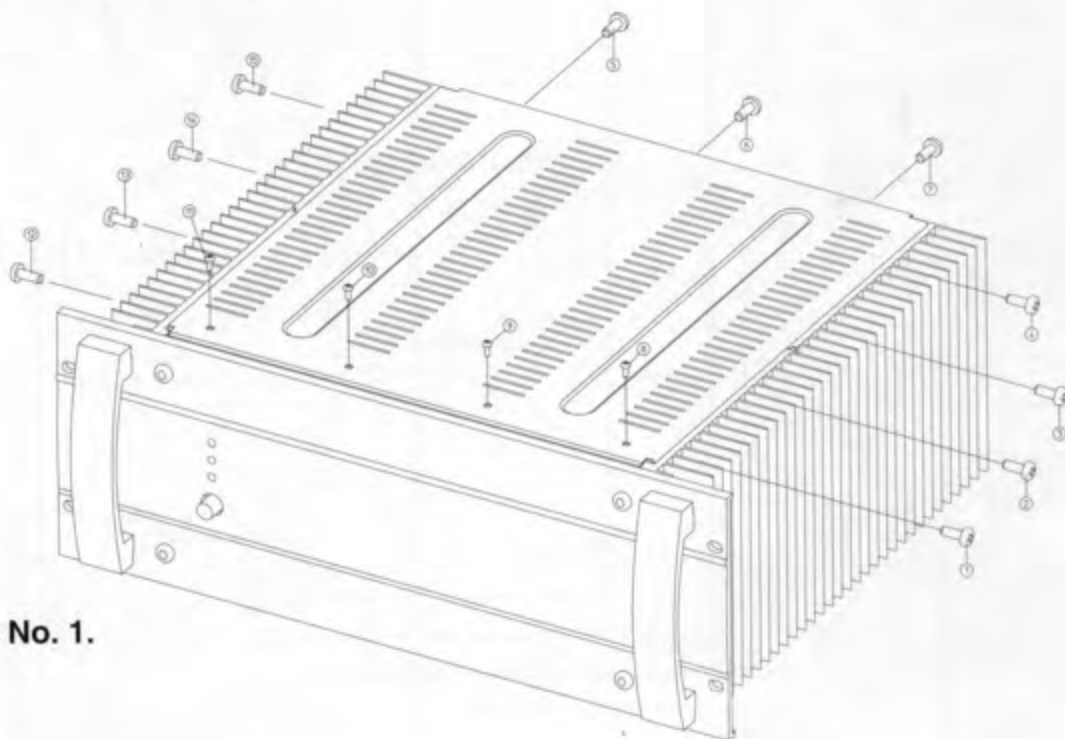

Figure No. 1.
1. Remove machine screws M 4.0 x 6.0 ( ① to ⑮ ) from the side panels. Refer to figure No.1.